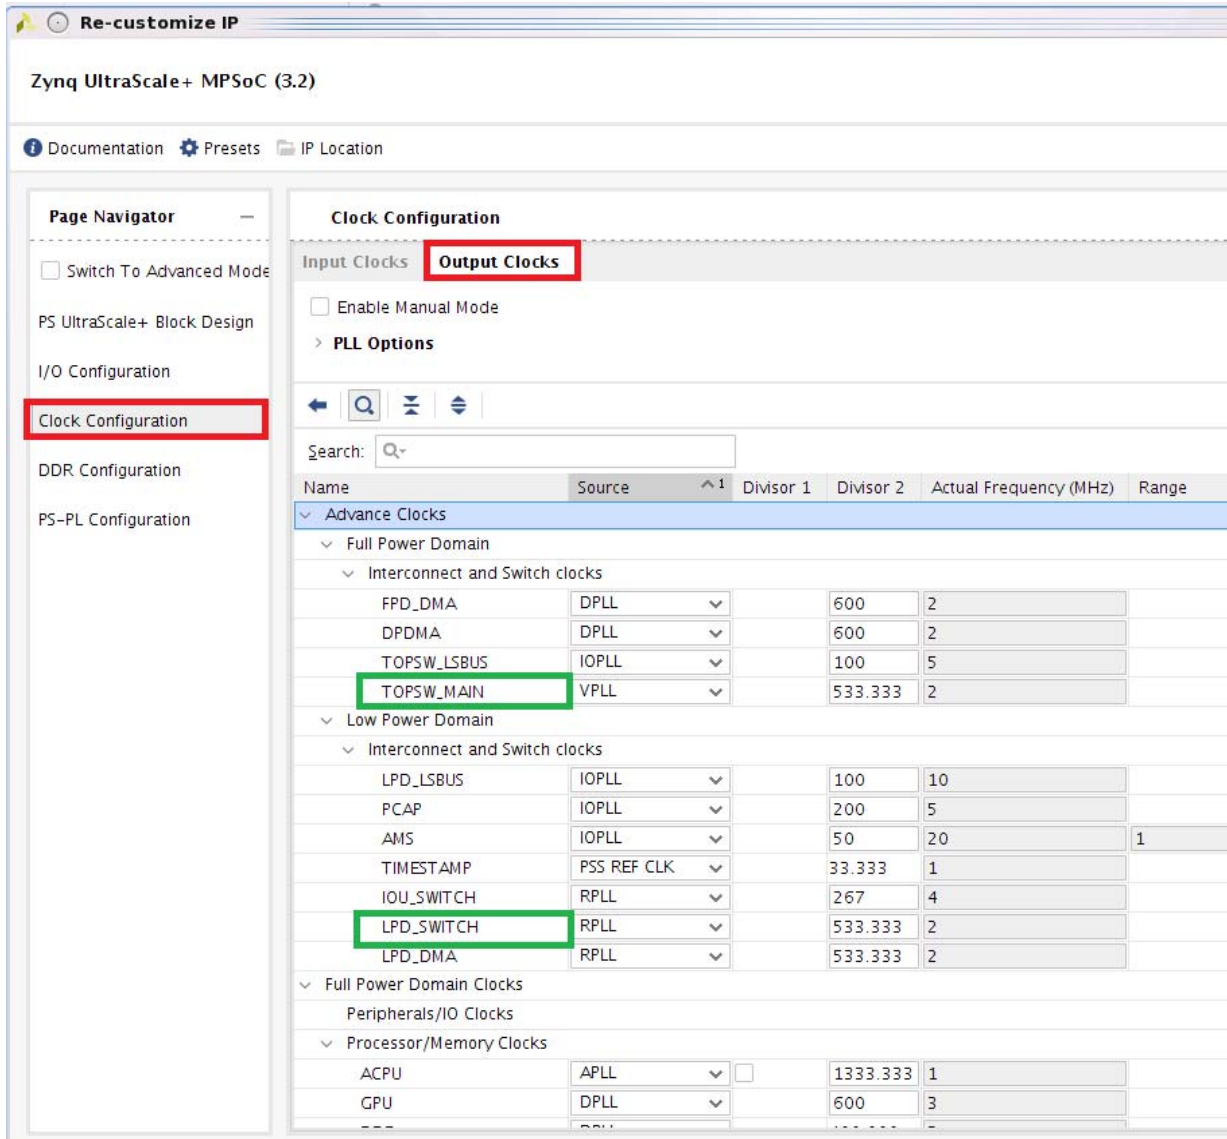

Figure 3-24: Customize Zynq UltraScale+ MPSoC IP
- Low and Full power interconnect clock rates are called LPD\_SWITCH (LP) and TOPSW\_MAIN (FP) in the clock configuration tab as shown in Figure 3-24 as green color boxes.
**Note:** The FP and LP interconnect clocks can be generated using the TOPSW\_MAIN and LPD\_SWITCH (marked as green boxes in Figure 3-24).